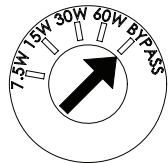

Figure 27
- Use a flathead screwdriver to change the transformer tap to BYPASS as shown in Figure 27.